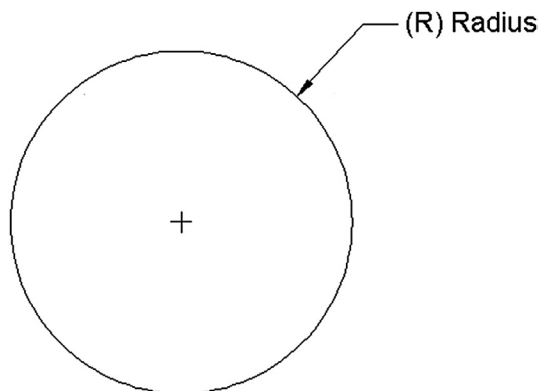

FIGURE 6.5
This is a dimension that measures the radius of a circle or an arc (Figure 6.5).
Step 1. Create a small to medium-size circle, as seen in Figure 6.5. Then, begin the radius dimension command via any of the preceding methods.